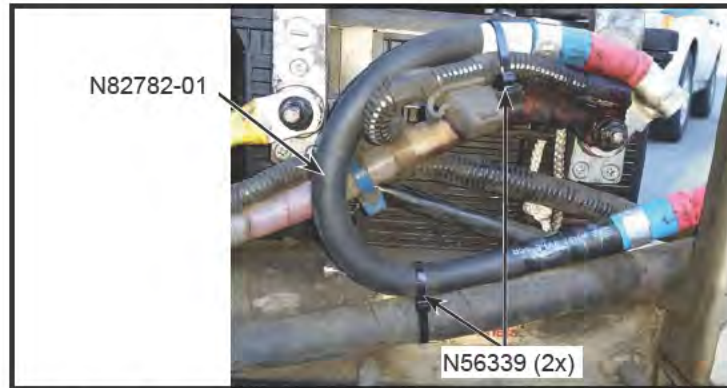

Figure 6 - Installation of New Battery Cable (N82782-01)
- 1.6. Install N82782-01 battery cable between the battery disconnect switch and the battery. Do not tighten the nuts (see Figure 6).
- 1.7. Install 2x N56339 cable tie to support the battery cable (see Figure 6).